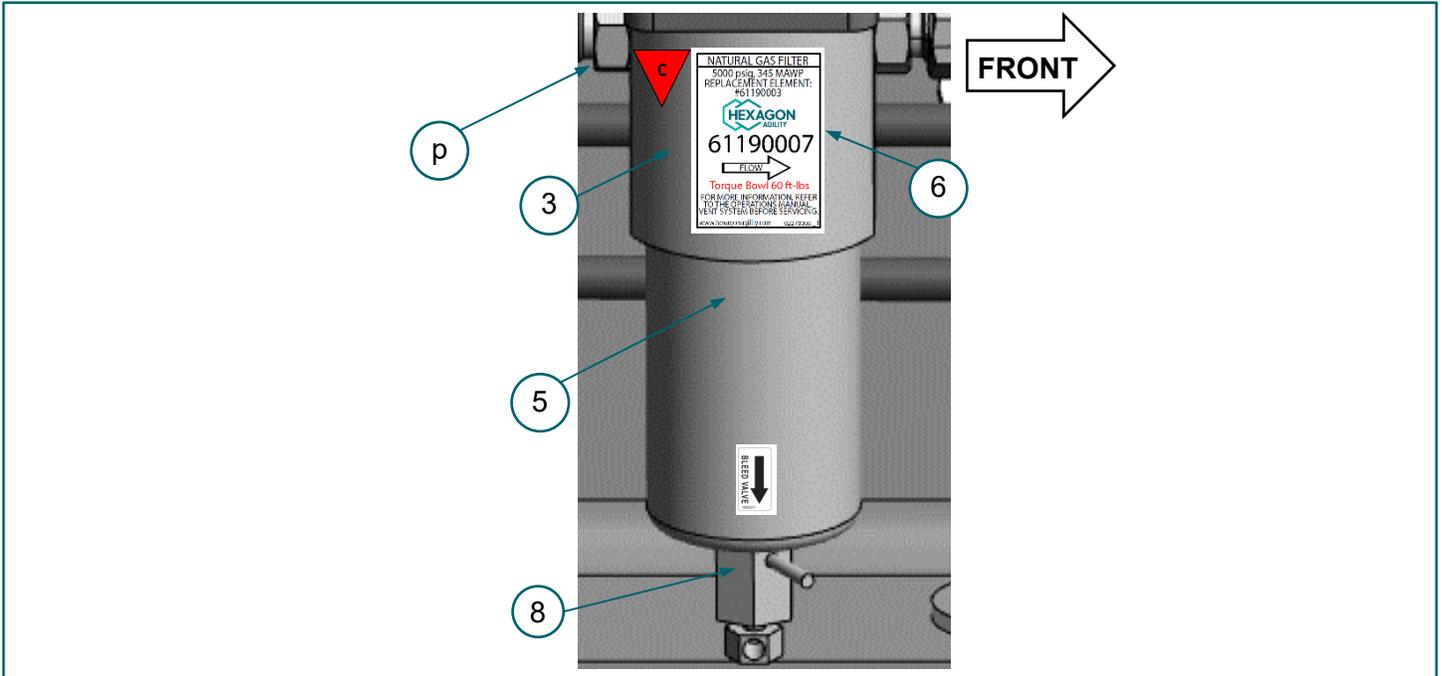

FIGURE 3–8. (3) HP fuel filter head, (5) retrofit HP fuel filter bowl, (8) bleed valve, (6) filter decal, (p) outlet port
9. Clean (3) HP fuel filter head and (5) fuel filter bowl for decal installation. **FIGURE 3–8**
10.  Install (6) fuel filter decal on (1) HP fuel filter head with flow arrow pointing towards the fuel filter head (p) outlet port. **FIGURE 3–8**